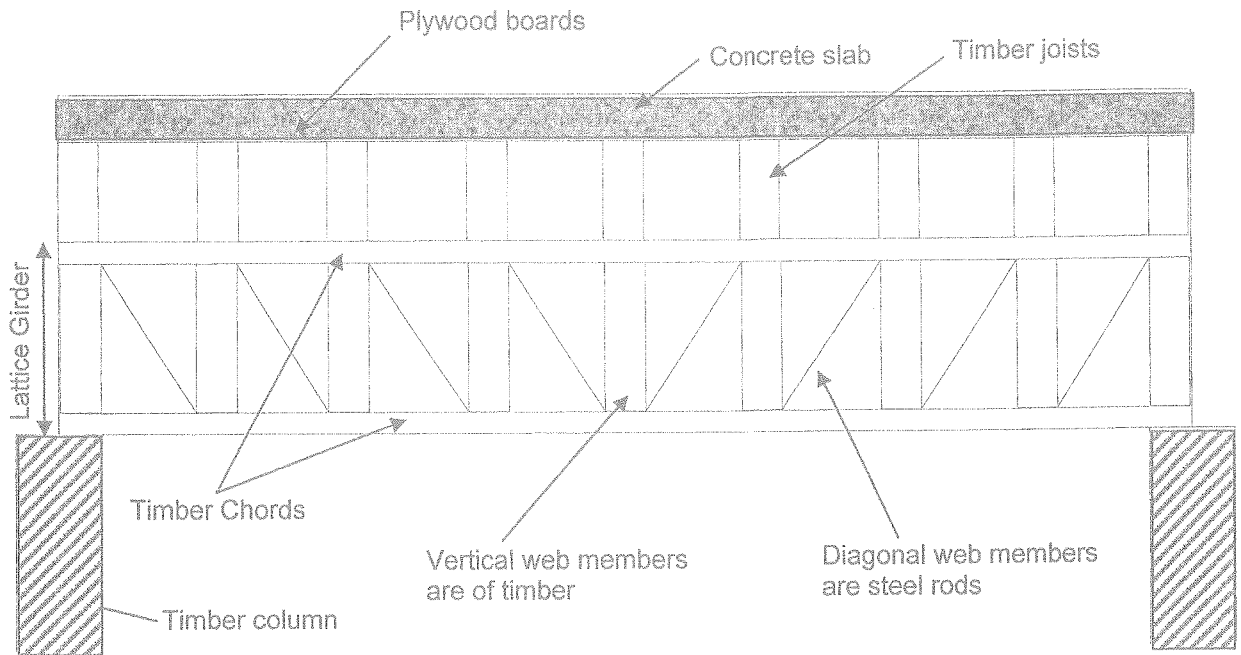

Figure Q2.1
Q2. Figure Q2.1 shows an elevation of a proposed formwork arrangement to support a 125 mm thick reinforced concrete slab. Timber plywood boards are supported on timber joists, which are supported on a lattice girder made of timber and steel sections as shown in the Figure Q2.1. The lattice girder is supported on vertical timber props. It is intended to use timber belonging to Kempas (strength class D60 of BS 5268: Part 2) for all the timber elements of the formwork system.
- f) The lattice girder is supported on two columns as shown in Figure Q2.1. Effective height of a column is 2.5 m and both ends of the column are restrained in position and in direction. Strength class of the timber material used for column is equivalent to D70.